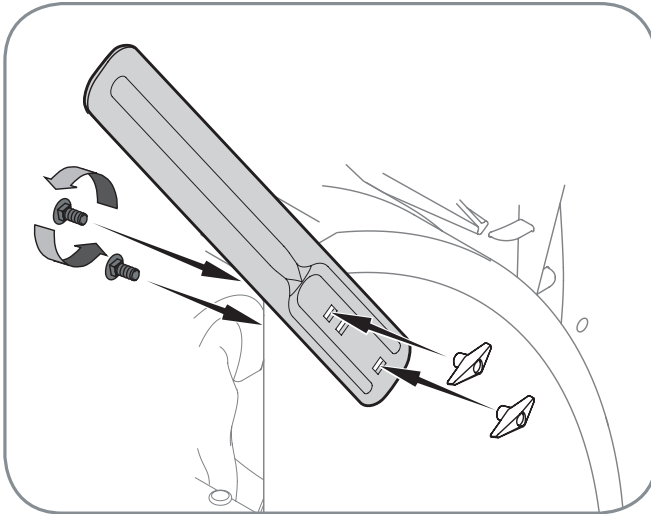

Fig. 3-9
- Reposition drift cutters so they face forward as shown in Fig. 3-9. Secure with hardware previously removed, wingnuts should be fastened on the **outside** of the housing as shown.